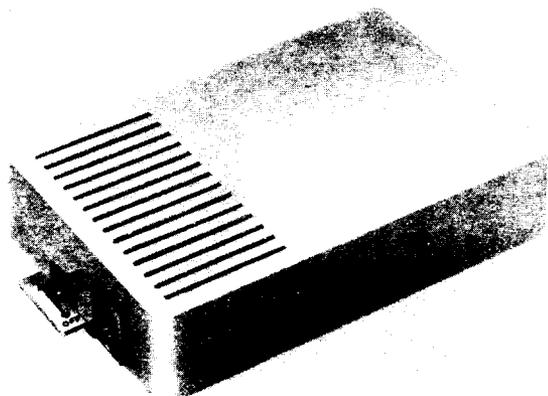

Fig. 1—CSW1A Ringer
1.01 This section contains information on the CSW1A tone ringer (Fig. 1, 2, and 3) which is a loud ringing extension ringer for people with impaired hearing or those people desiring a pleasant sounding ringer.